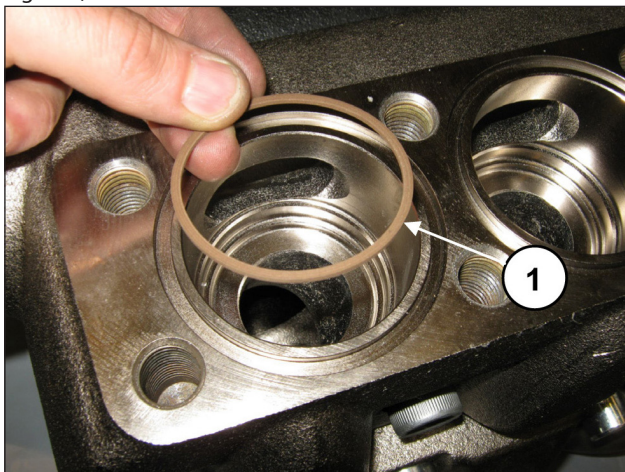

Fig. 160
Insert the back-up ring, exploded view pos. 24 (pos. ①, Fig. 160).